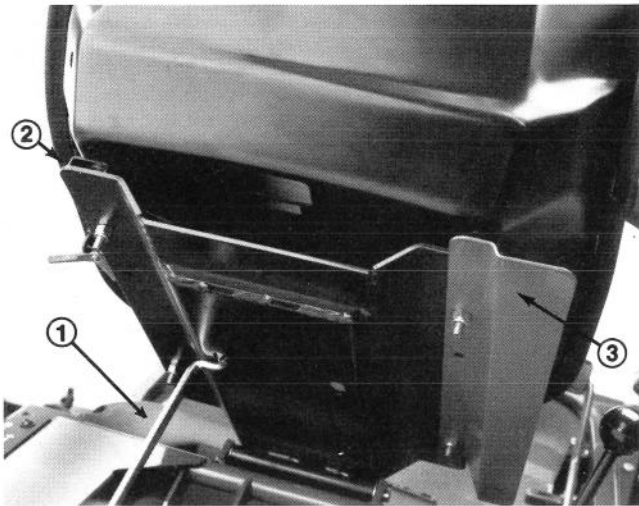

Figure 3
## MOUNT SEAT (Fig. 3)
3. Secure seat, seat panel and seat slides to seat support with 5/16–18 lock nuts supplied in loose parts. Seat cover to be mounted on right side, positioned as shown in fig. 3.